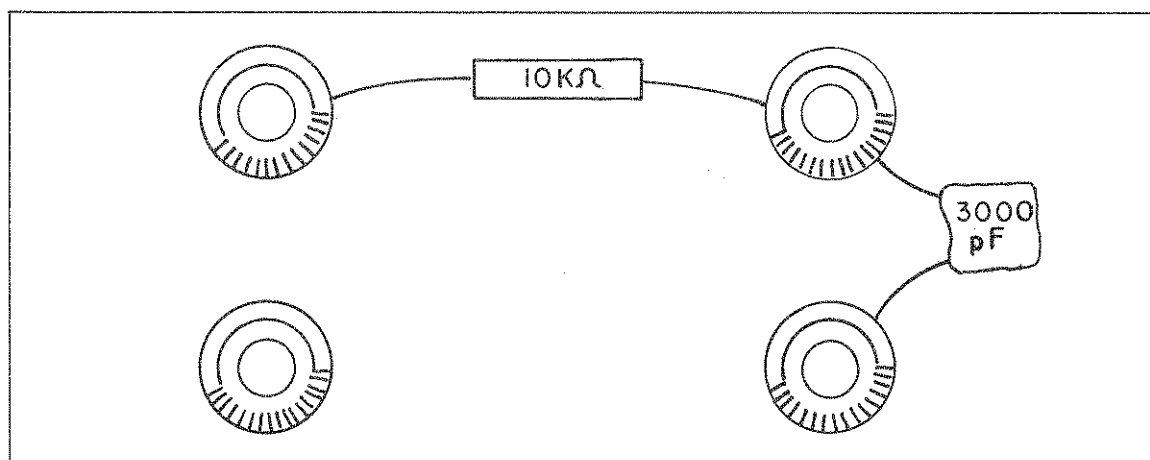

Figure 3-12. Connecting a Single Pole Low Pass Filter.
- b. Connect a 10 k Ω resistor and a 3000 pF capacitor between the inputs of channels A and B as shown in Figure 3-12.